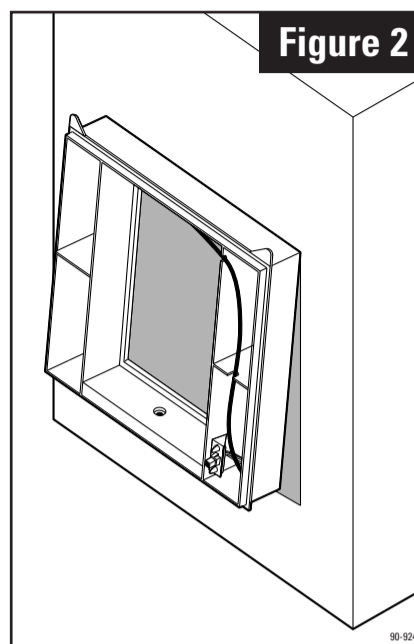

Figure 2
**3.** Position the two plastic hooks on the top of base along the top edge of the plenum opening. Push base up to engage the two hooks and sheet metal along the top edge opening. Push base in and slide down so that the bottom four hooks engage the sheet metal at the bottom edge of the opening. (See Figure 2)